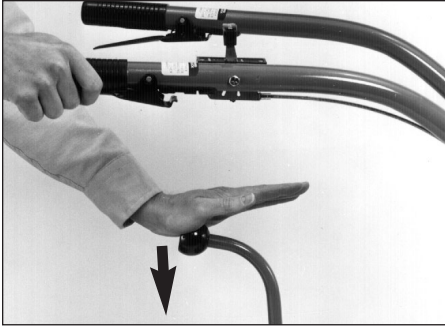

Figure 4-3: Moving tiller forward: squeeze one Forward Interlock Lever and then move Wheels/Tines/PTO Drive Lever down to FORWARD.
5. To move the tiller forward and engage the tines, squeeze and hold either Forward Interlock Lever (Figure 4-3) against the handlebar grip, then move the Wheels/Tines/PTO Drive Lever down to FORWARD position.
5. Squeeze and hold just one of the Forward Interlock Levers against the handlebar grip while moving the Wheels/PTO Drive Lever down to FORWARD (Figure 4-3). As the tiller moves forward, release the Forward Interlock Lever briefly. The engine should start to stall out if the interlock system is working properly. If it does start to stall, quickly squeeze the lever up against the handlebar grip, and then return the Wheels/Tines/PTO Drive Lever to NEUTRAL. Repeat this test to check that the engine begins to stall out when the other Forward Interlock Lever is released.